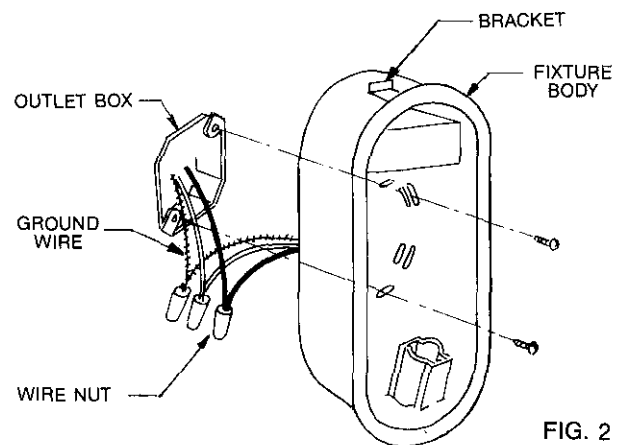

FIG. 2
3. Make connections: Black fixture lead or fixture lead without tracer mark to black supply lead; white fixture lead or fixture lead with tracer mark to white supply lead. Uninsulated wire is GROUND WIRE and must be connected to a grounding terminal or ground wire in OUTLET BOX. Use WIRE NUTS (local hardware item). Place connections in OUTLET BOX. See Fig. 2.